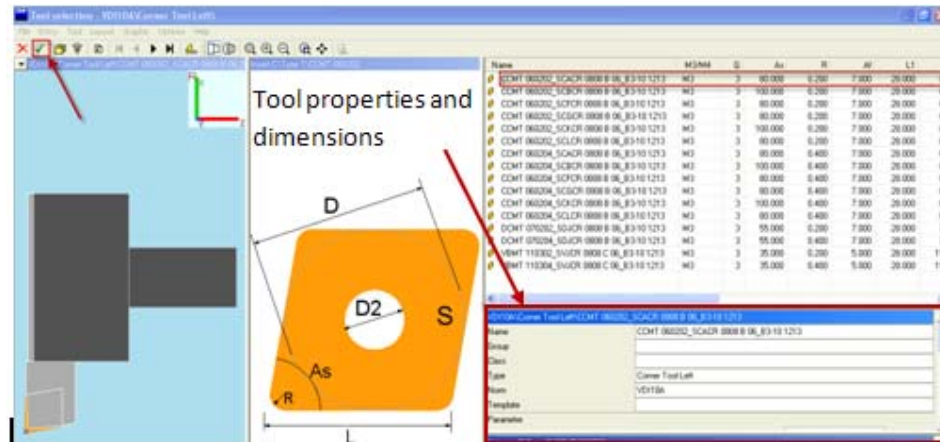

Fig. 2.19 Tool name selection
e. Click on the correct tool name “**CCMT 060202_SCACR 0808 B 06_B 3.10 1213**”, then, save it by clicking . The right column under the tool name shows the properties and dimensions of the tool as shown in Fig.2.19.
On the toolbar of the tool equipment Fig.2.19, there are some important icons that will help you in your **future settings**: